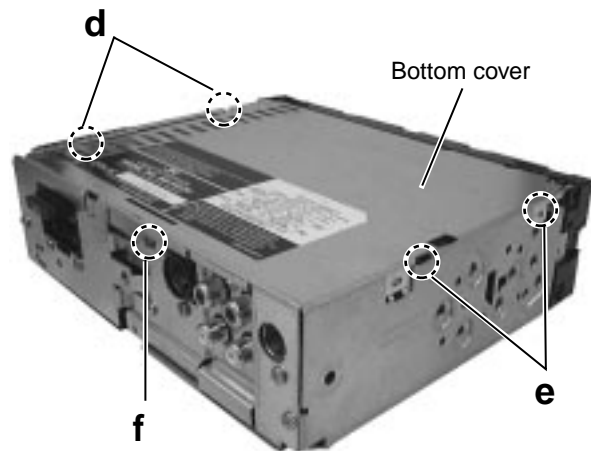

Fig. 5
■ Removing the bottom cover (See Fig.5)